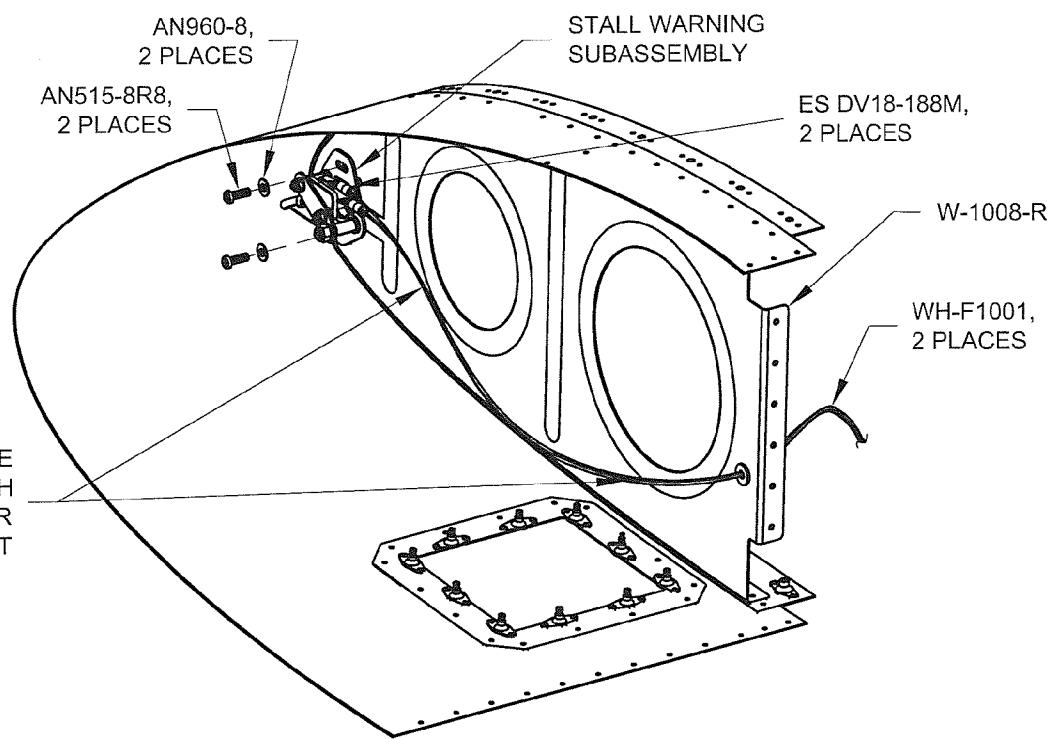

FIGURE 2: INSTALLING THE STALL WARNING SUBASSEMBLY
Step 5: Install the Stall Warning Subassembly on the W-1008-R Splice Rib as shown in Figure 2. The upper screw goes through the slot in the VA-195A Mount Plate and allows the angle of the Stall Warning Subassembly to be adjusted. Adjust the subassembly until the VA-196 Vane activates and deactivates the ES E22-50K micro switch with the minimum travel possible (it is permissible to bend the arm on the micro switch if/as required).
Step 8: Install the WH-F1001 Wires to the COM. (common) and N.O. (normally open) terminals of the ES E22-50K Micro Switch. Rout the wires inboard through the snap bushing in the W-1008-R Splice Ribs aft tooling hole. See Figure 2.